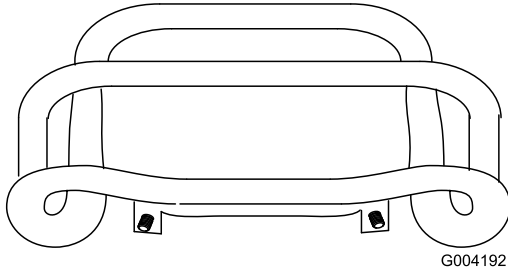

Figure 52
- Adjust the traction control so that it rests flush against the reference bar when it is pulled straight back (Figure 51 and Figure 52).